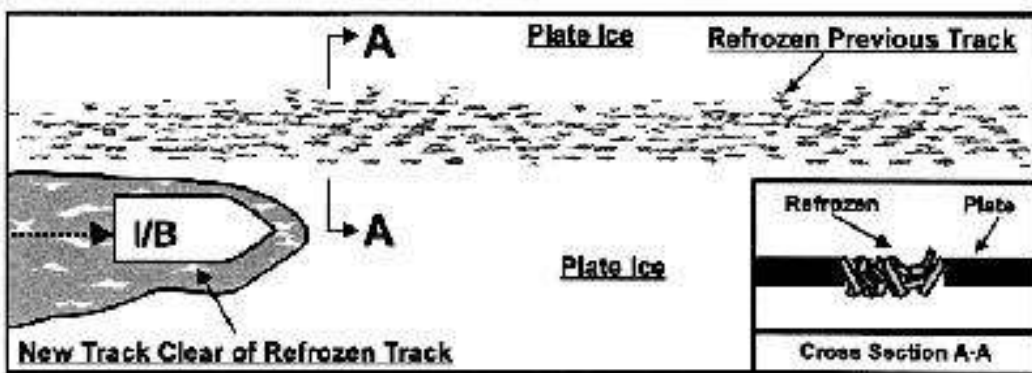

Figure 6-7 Old and New Tracks
- 7 Utilizing Old Track. In some channels with a heavy current large pieces of plate ice can be piled up with the edges up on the downriver side (See **Figure 6-7**). Once a track has been broken it is advisable to make all subsequent transits upriver in a broken track and break new ice headed downstream. Using this method will significantly reduce the amount of backing and ramming required.